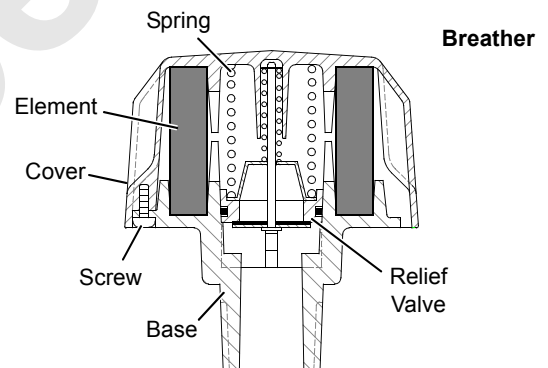

FIGURE 2-9
3. Attach a rubber hose to pipe on drain valve (8) and insert end of hose into a suitable container to catch hydraulic oil. See Section 9 for hydraulic system capacity.
4. Open drain valve (8) and drain tank completely.
5. Clean all dirt from access cover (5) in top of tank and remove cover. **Take care to prevent dust and wind-blown dirt from entering tank while covers are off.**
9. On past production cranes only, either replace breather (Figure 2-9) with a new one or replace breather element as follows, depending on which is more economical for you:
- e. Reassemble breather as shown in Figure 2-9.